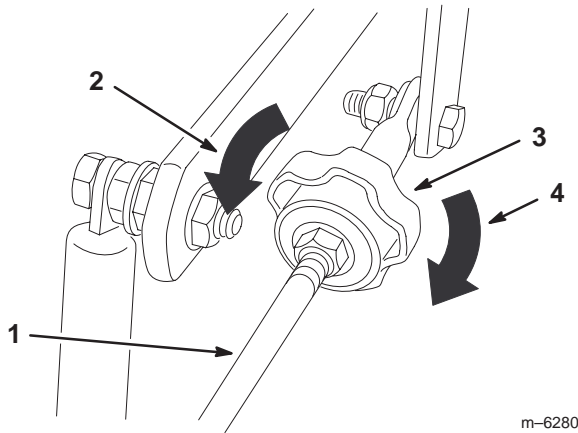

Figure 60
4. To make the machine go right, turn the knob towards the rightside of the machine. Refer to figure 60.
5. To make the machine go left, turn the knob towards the leftside of the machine. Refer to figure 60.